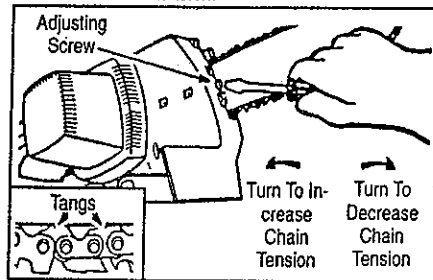

Figure 11
CHAIN TENSION (Fig. 11 & 12)
- Turn the adjusting screw clockwise until the tangs on the chain enter the guide bar groove. Figure 11 (inset).
- NOTE: To tighten the chain, turn the adjusting screw clockwise; to loosen the chain, turn the adjusting screw counterclockwise. Figure 11.